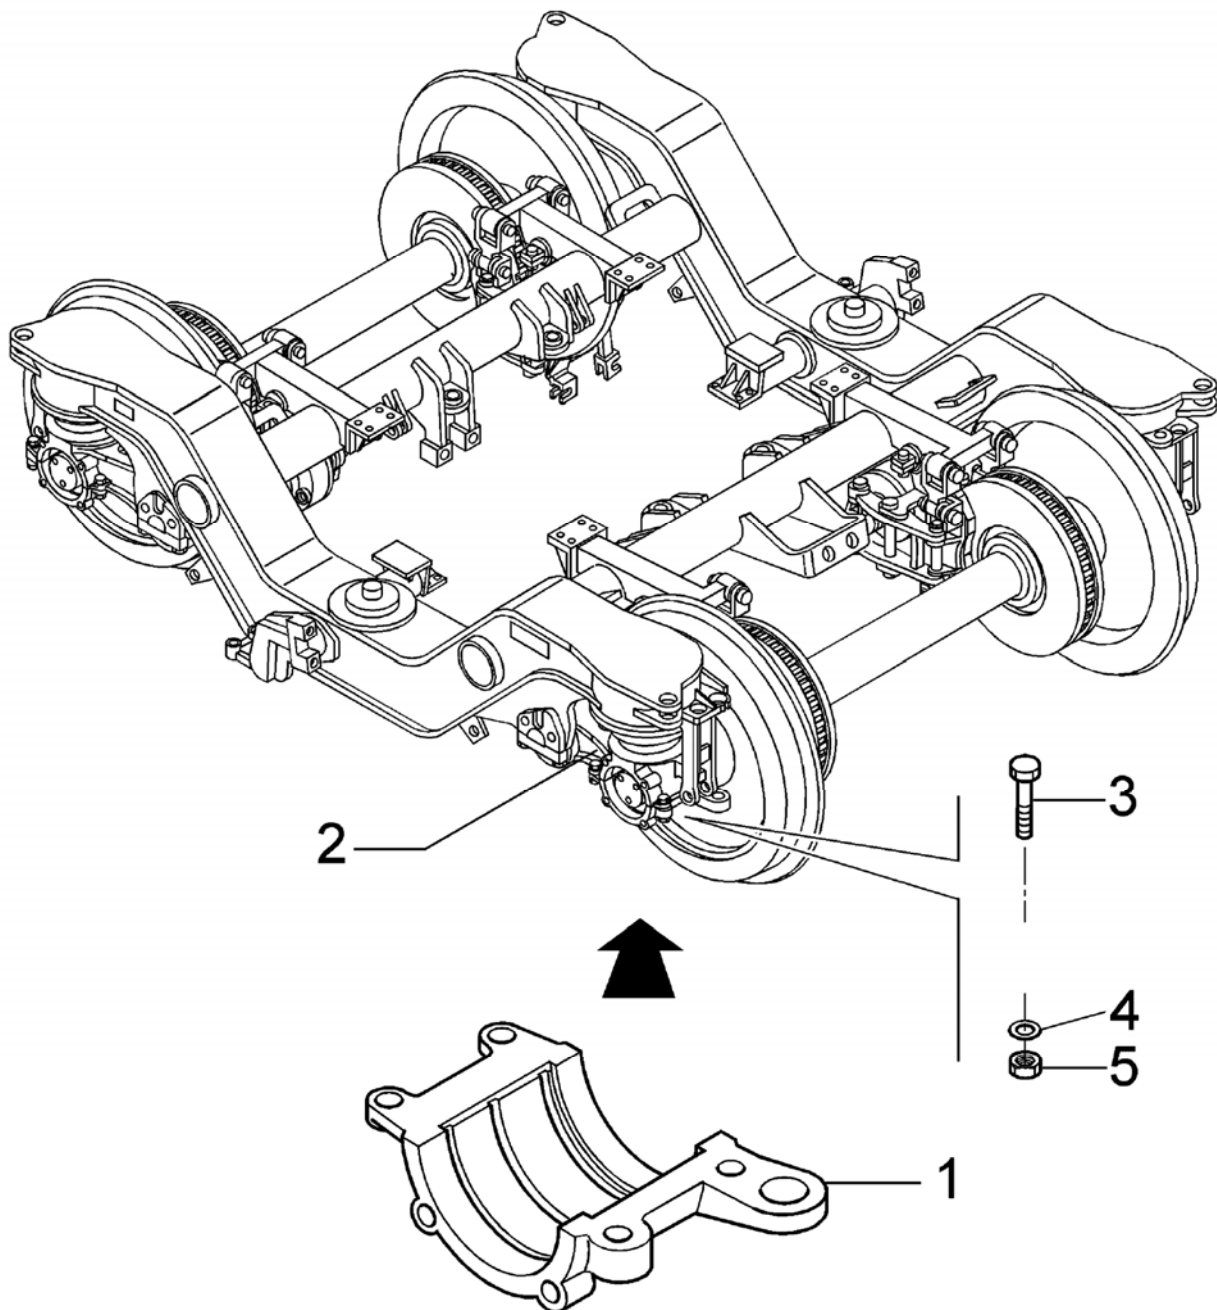

FIG. 4-78 MOUNTING THE LOWER PART OF THE CONTROL ARMS
After lowering the frame over the wheelsets, mount the lower parts of the control arms (1 -FIG. 4-78) to the upper one (2): insert the screws (3), the washers (4) and the nuts (5) and tighten them.